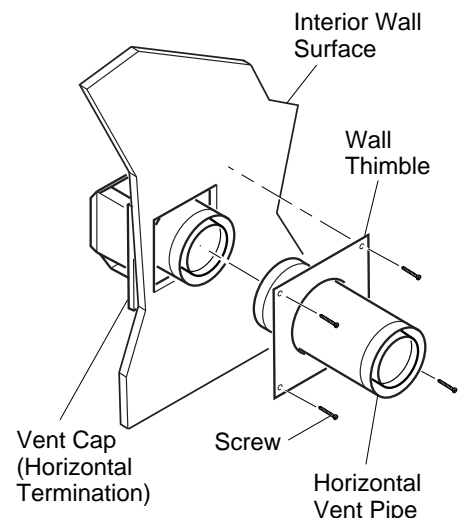

Figure 20 - Connecting Vent Cap with Horizontal Vent Pipe
- Slide the wall thimble over the vent pipe before connecting the horizontal run to the vent cap (see Figure 20).
- Slide the wall thimble against the interior wall surface and attach with screws provided (see Figure 20).